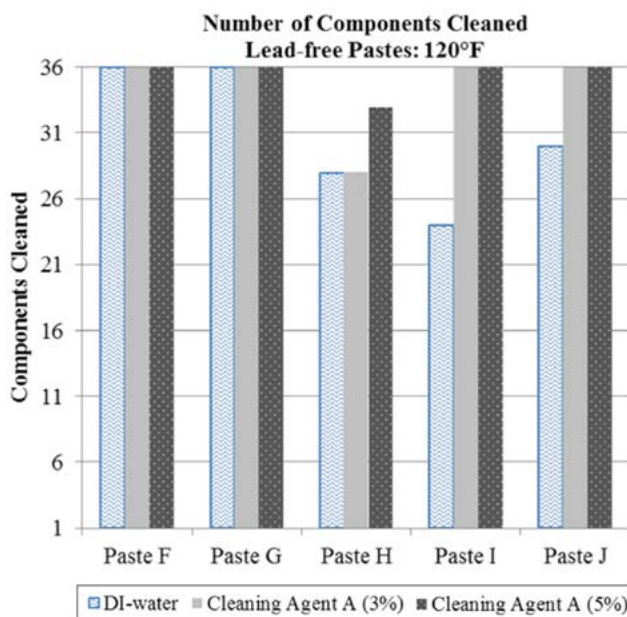

Figure 11: Results - Paste Analysis
- Completely cleaned surface underneath all components at all temperature scenarios using Pastes F and G (Figures 11, 12, and 13).
- Completely cleaned surface underneath all components at all temperature scenarios using Pastes F, G, I, and J (Figures 11, 12, and 13).